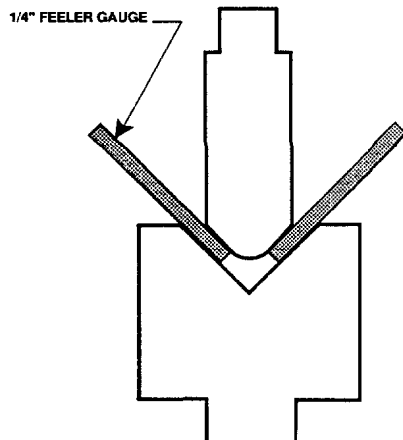

FIGURE 15
2. Raise the ram until there is enough clearance to insert a 1/4" feeler gauge along the sides of the upper and lower tools (Figure 15).